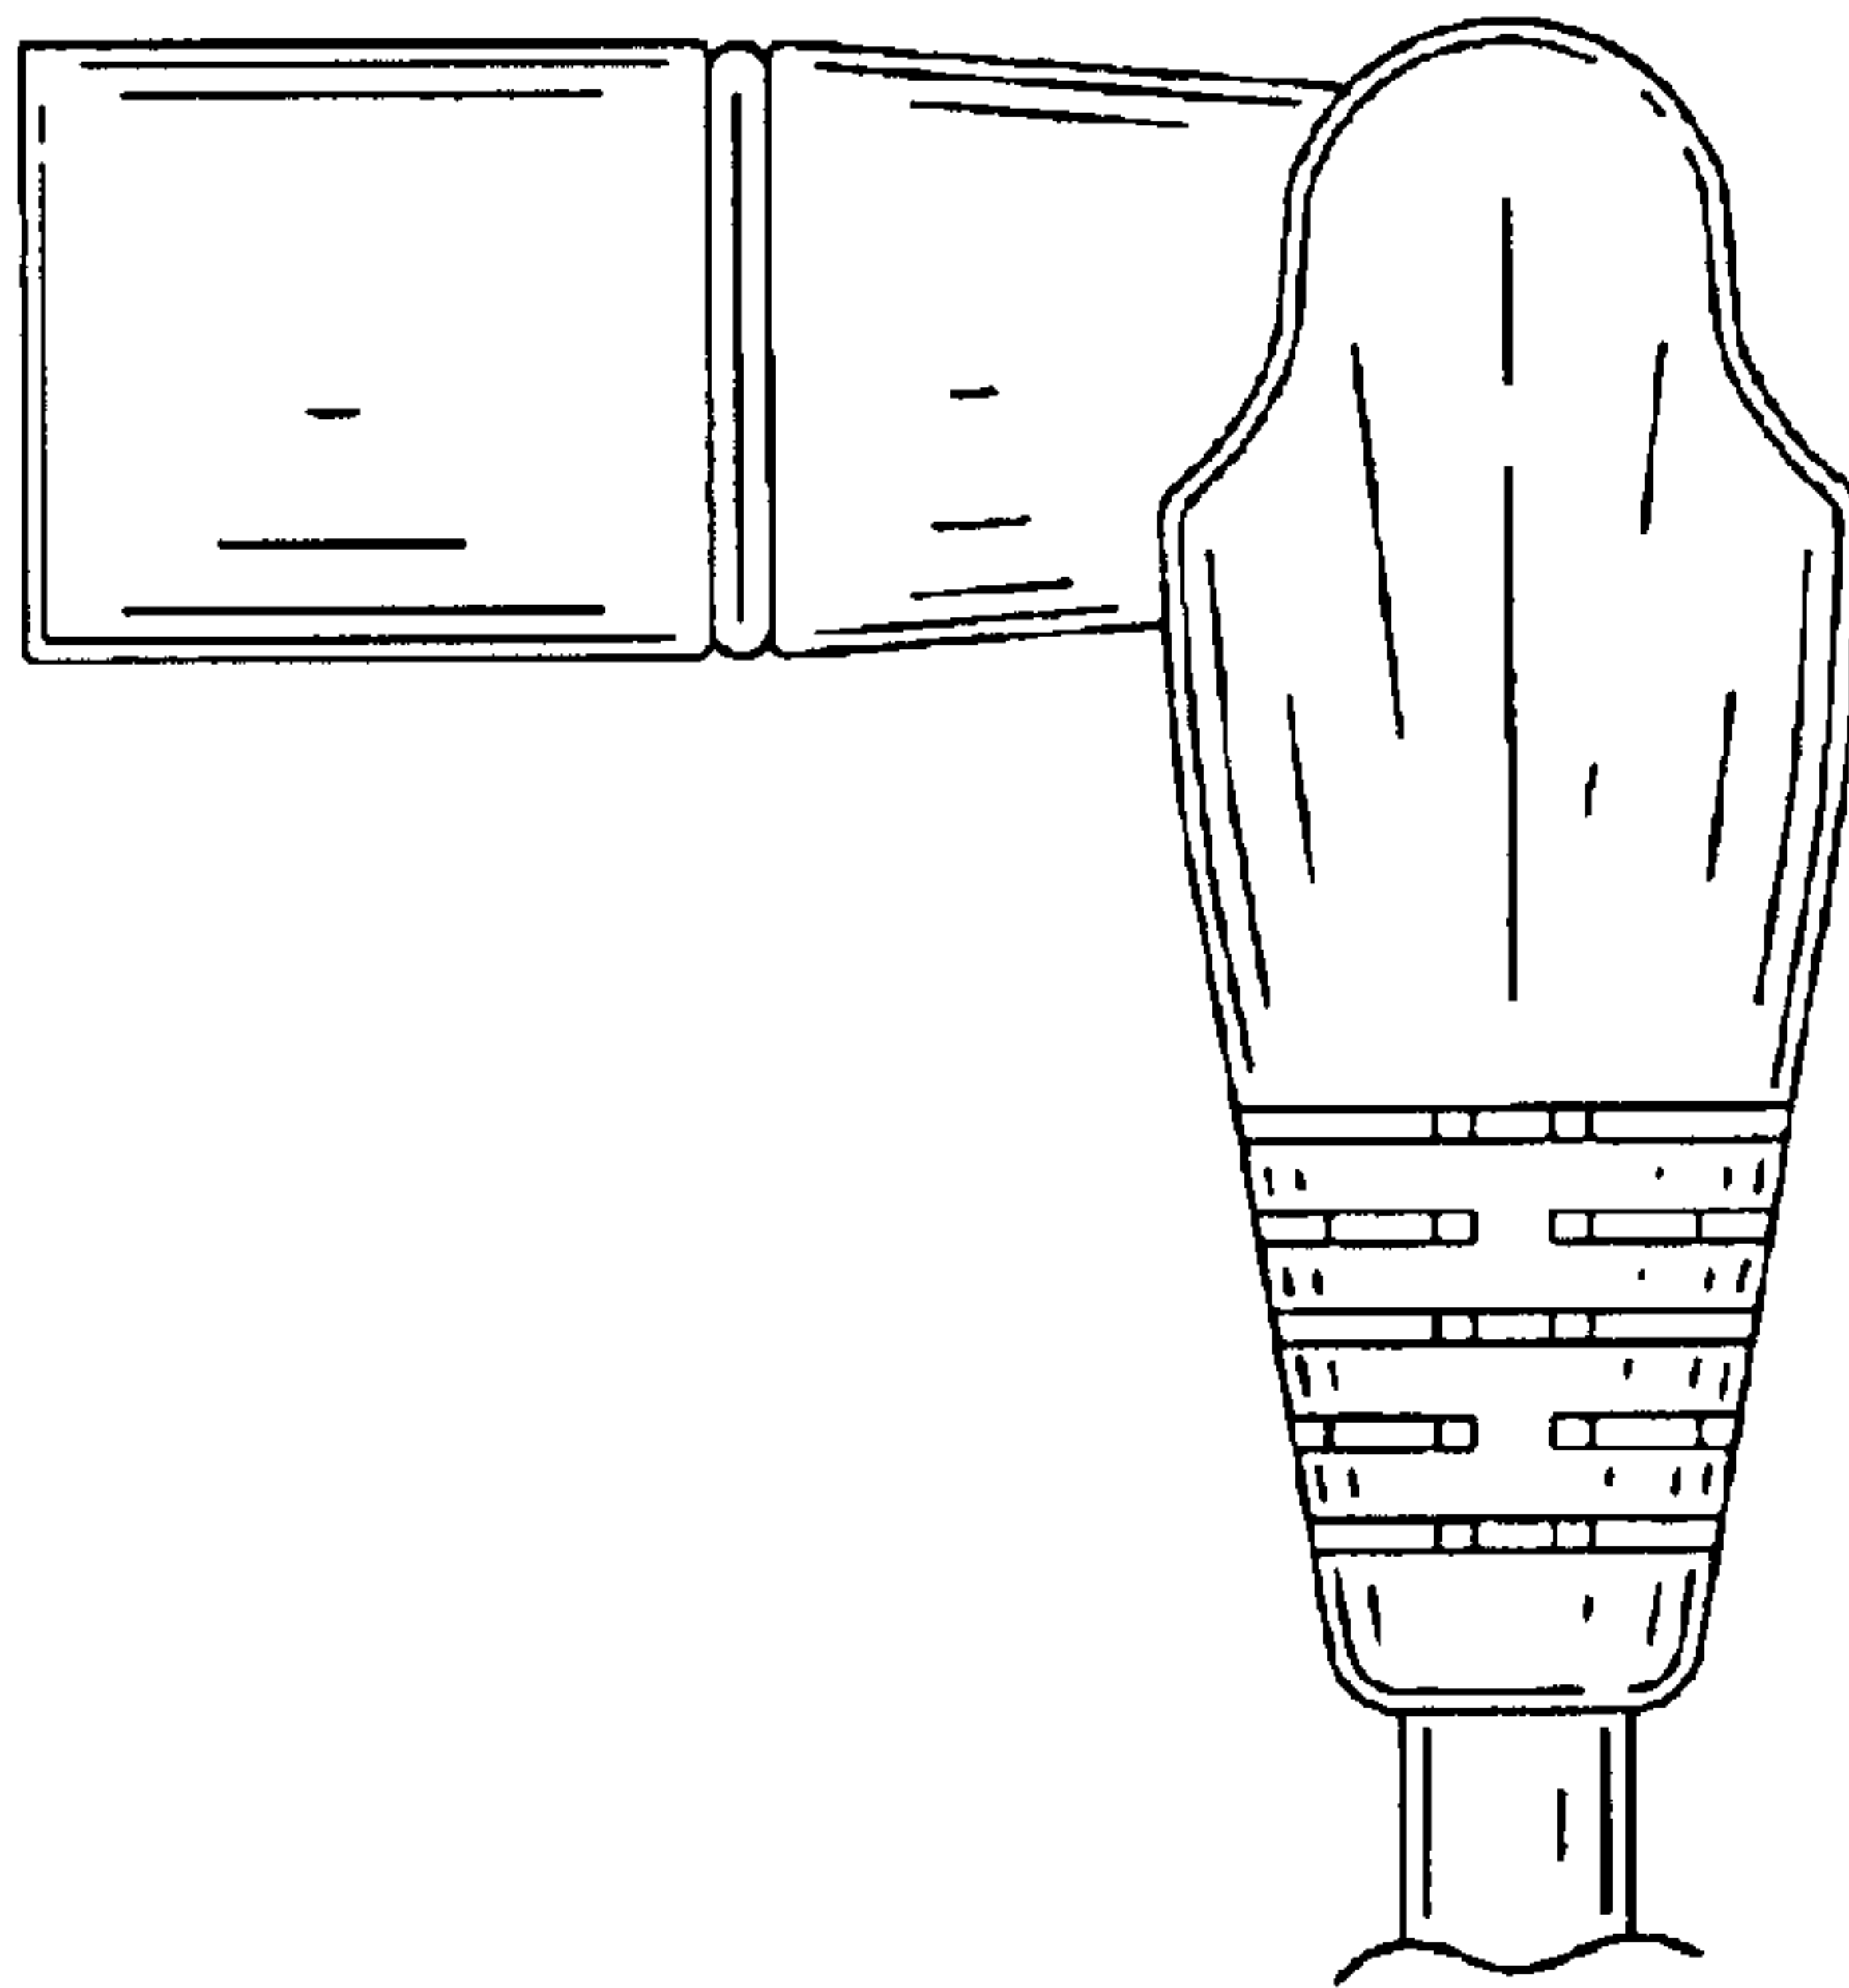

FIG. 4
FIG. 4 is a side elevational view of the connector with the respective axial sections disposed at a ninety (90) degree angle;